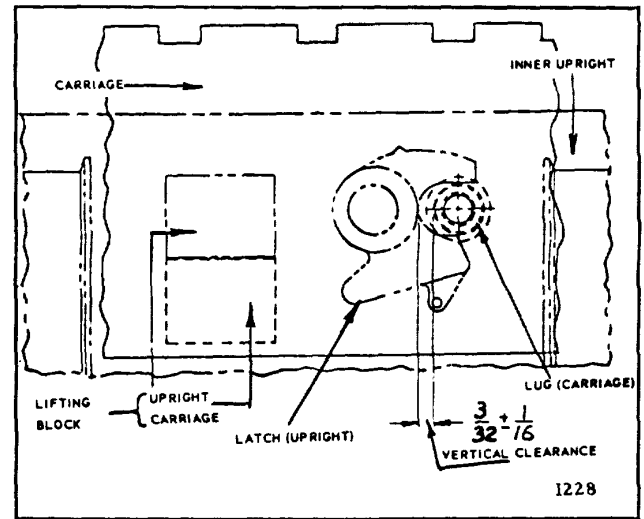

Figure 5.
- Measure the clearance as indicated in Figure 5.